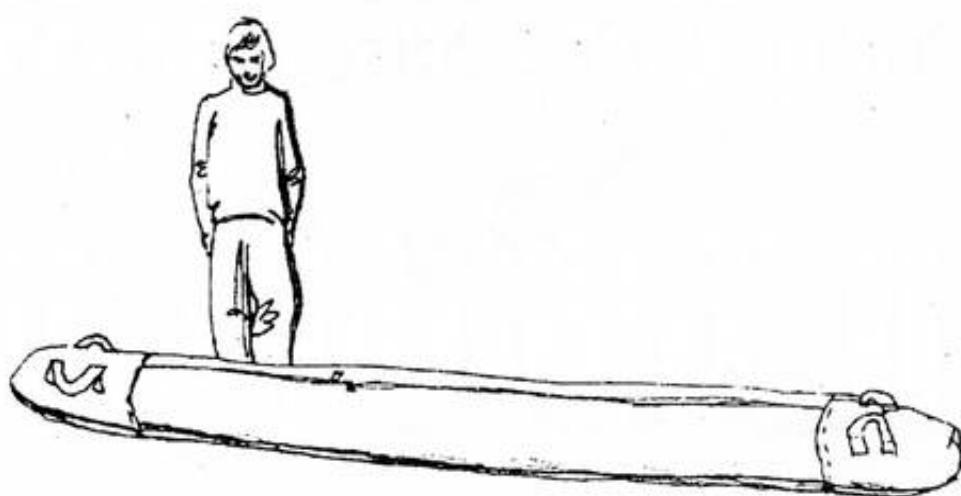

Fig.8
2.2.1. With the glider in the bag (6 metres long) lay the glider on the ground (Fig.8).